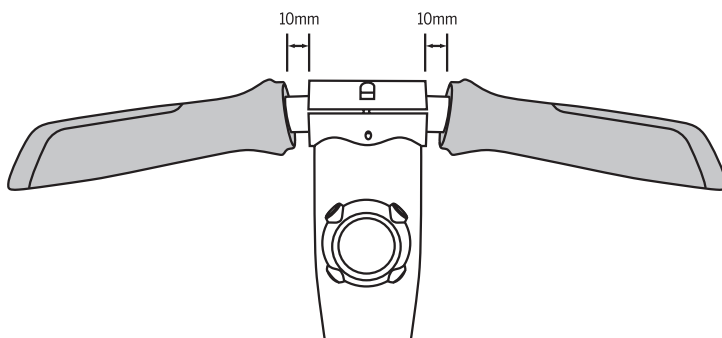

Figure 1. Slide the Grips away from the Handlebar Clamp
2. Slide both Handlebar Grips away from the Handlebar Clamp by at least 10mm (about 3/8 inch). See Figure 1.